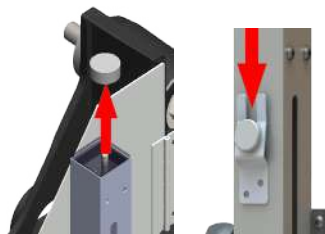

FIG. 13
7. Clamp the front roller (see FIG. 13).
9. Remove and store the REEL STOP on the side of the ACCU-POSITIONING GAUGE (see FIG. 13).